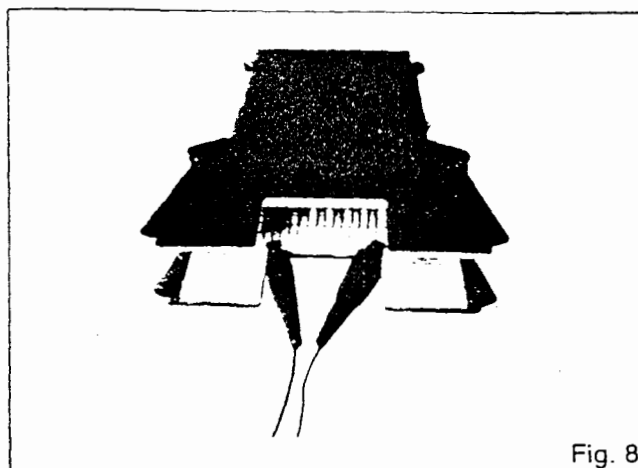

Fig. 8
1. Clip Megger or dielectric tester leads on the flash plates at the points shown in Figure 8 using alligator clips or the equivalent.